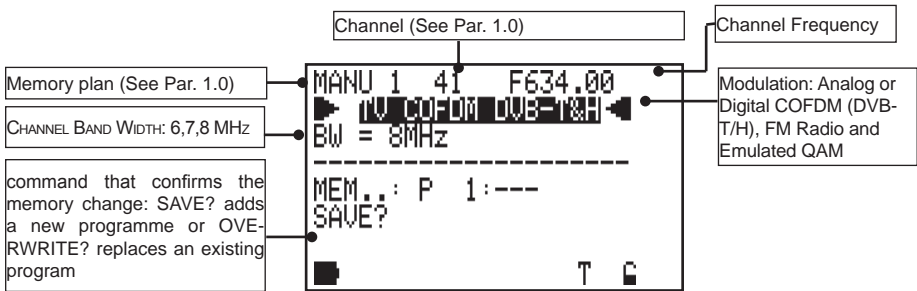

Fig. 24.1 MEMORY : creating or modifying a Memory Plan **Digital TV**.
- Use the ENCODER [3] to choose a new memory plan (see Fig. 24.1), the PLAN name is automatically assigned by the meter and will be the word "MANU" followed by the first available number (i.e. MANU1),
- Use the ENCODER [4] to modify the tuning fields for the channel to be memorized (See Fig. 24.1 and Notes),
- Use the ENCODER [3] to an existing memory plan (See Fig. 24.1),
- Follow the procedure described in point 24.2 with the only difference that you must select a new program number (see Fig. 24.1),